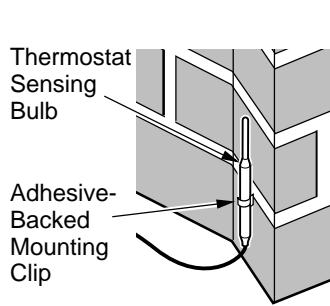
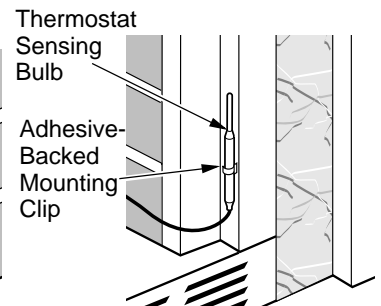
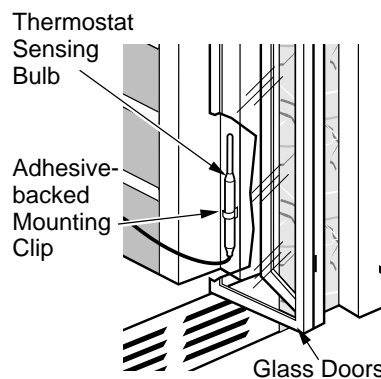

Figure 34 - Locating Thermostat Sensing Bulb on Masonry Fireplace
Figure 35 - Locating Thermostat Sensing Bulb on Factory-built Metal Fireplace
Figure 36 - Installing Thermostat Sensing Bulb behind Glass Doors
3. The thermostat sensing bulb may be located to the lower right front side of fireplace. Determine location of sensing bulb, but do not mount sensing bulb until step 5. If you have a masonry fireplace, see Figure 34 for location. If you have a factory-built metal fireplace, see Figure 35 for location. If your fireplace has glass doors, position sensing bulb directly behind door gap on right bottom side (see Figure 36).